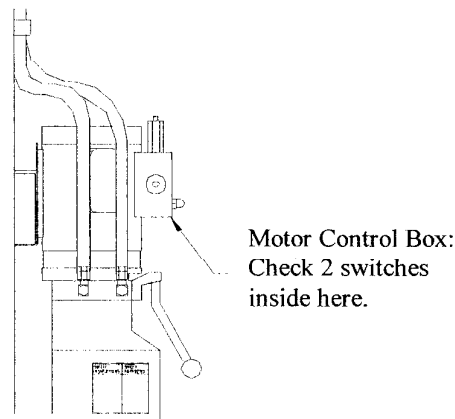

FIGURE 17
- ◆ Check adjustment of overhead cable and micro-switch in motor control box. Figure 17. If the cable holds the plunger off of the micro-switch the circuit is broken and the cable has too much tension. The cable needs to be readjusted.
- ◆ Check micro-switch in motor control box. Figure 17.